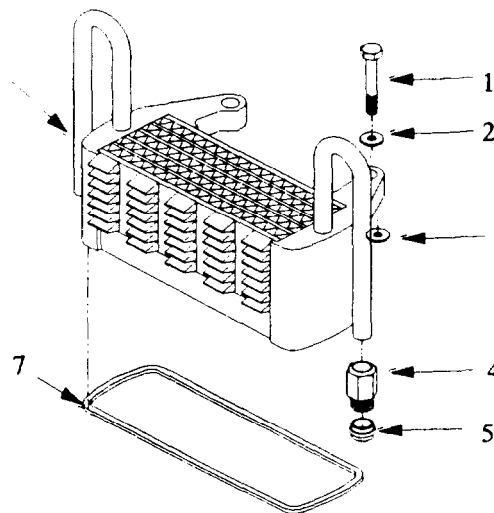

Figure 4-32.1. Cooling Coil Maintenance (Model 350 PAWN).
- a. Remove bolts (figure 4-32.1, 1) and flatwashers(2 and 3).
- b. Loosen union nuts (4) and slid up tubing.
- c. Remove oil cooler (6) with union nuts (4), duplex rings (5) and seal ring(7) from engine.
- a. Install union nuts (4) and duplex rings (5) tubing on oil cooler (6).
- b. Position cushion (7) and install oil cooler (6) on engine. and line up fittings.